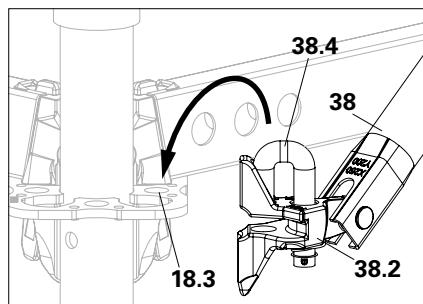

Fig. A5.01c
3. Push the brace head (38.2) with raised bolt (38.4) onto the lower rosette. (Fig. A5.01c)